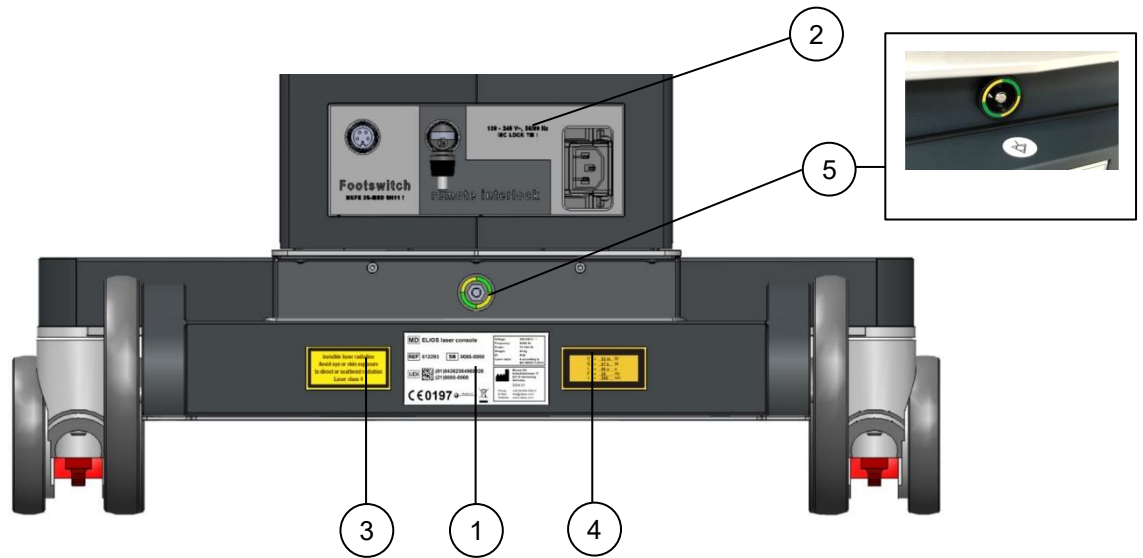

Fig. 2-1: Backside view
1.	<p>The identification plate is located on the backside of the laser (see Fig. 2-1).</p> <p>The symbols used mean:</p> <p>MD Medical device</p> <p>REF Catalogue number</p> <p>SN Serial number</p> <p>UDI Unique Device Identifier</p> <p> Alternating current</p> <p>IP IP protection class</p> <p> Manufacturer and date of manufacture (YYYY-MM)</p> <p>CE 0197 CE marking of conformity with number of Notified Body</p> <p> see 6.</p>
2.	<p>Labeling of connections.</p> <p>Mains electrical input ("100 – 240 V~, 50/60 Hz IEC LOCK TM !")</p> <p> foot switch („Footswitch")</p> <p> external Interlock ("remote interlock")</p> <p>The label is located on the backside of the laser (see Fig. 2-1).</p>
3.	<p>The ELIOS laser console generates class 4 laser radiation. Neither eye nor skin should be exposed to this invisible radiation.</p> <p>The label is located on the backside of the laser (see Fig. 2-1).</p>
4.	<p>The laser radiation output information is specified on the pictured label.</p> <p>The label is located on the backside of the laser (see Fig. 2-1).</p>
5.	<p>Connector for electrical potential equalization.</p> <p>The label is located on the backside of the laser (see Fig. 2-1).</p>